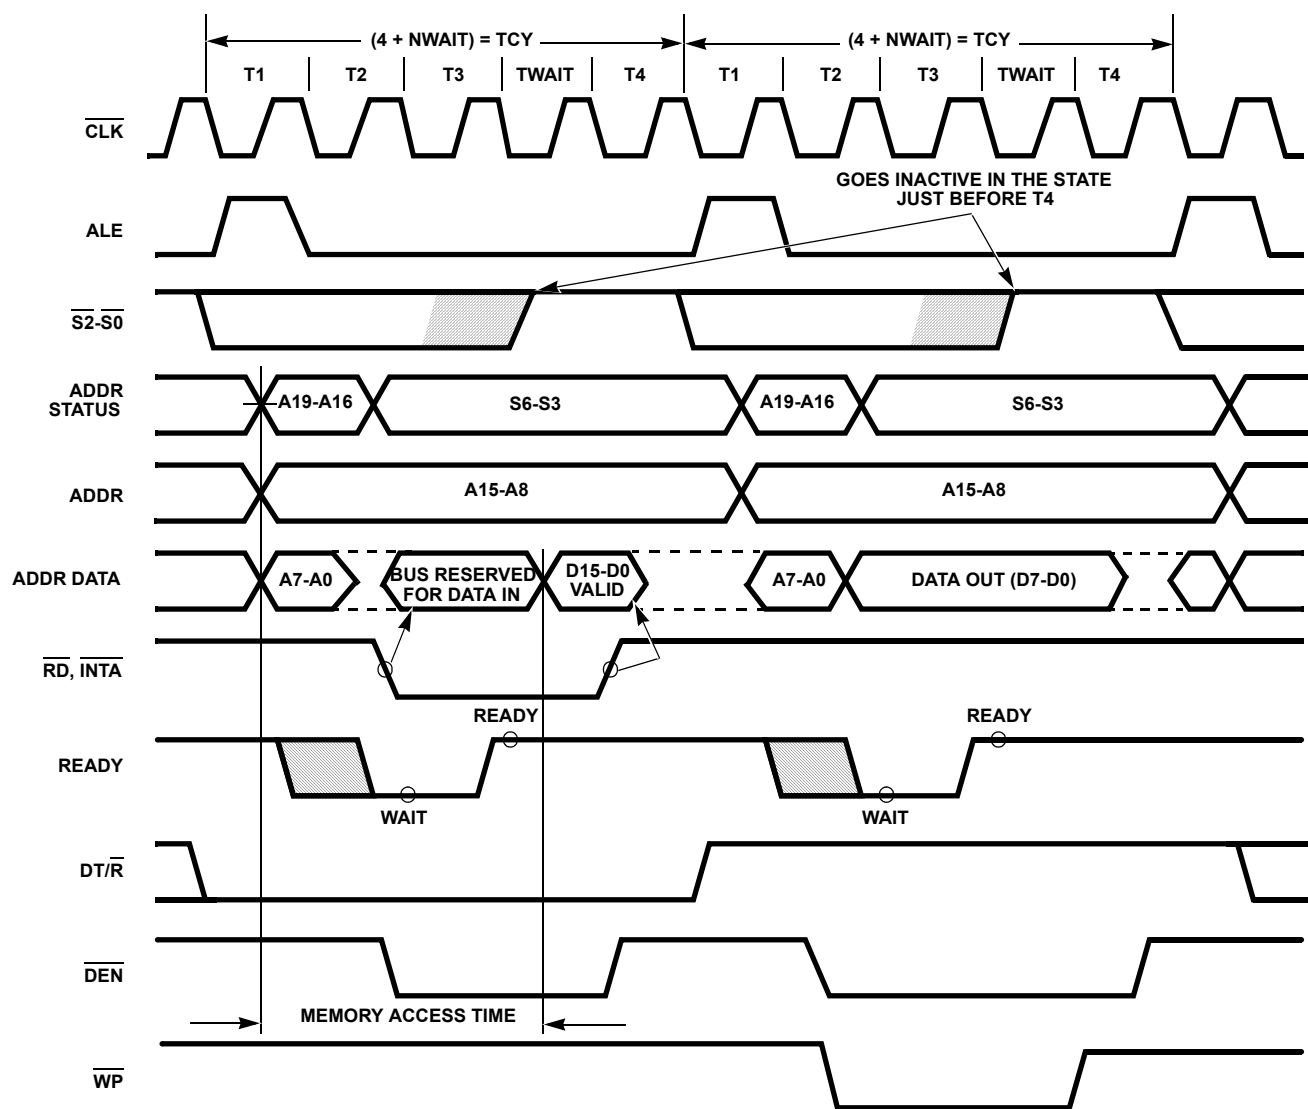

FIGURE 5. BASIC SYSTEM TIMING
Each processor bus cycle consists of at least four CLK cycles. These are referred to as T1, T2, T3, and T4, as shown in Figure 5 on page 12. The address is emitted from the processor during T1 and data transfer occurs on the bus during T3 and T4. T2 is used primarily for changing the direction of the bus during read operations. In the event that a "Not Ready" indication is given by the addressed device, "wait" states (TW) are inserted between T3 and T4. Each inserted "wait" state is of the same duration as a
The read cycle begins in T1 with the assertion of the address latch enable (ALE) signal (see Figure 5 on page 12). The trailing (low-going) edge of this signal is used to latch the address information, which is valid on the address data bus (AD0-AD7) at this time, into the 82C82/82C83 latch. Address lines A8 through A15 do not need to be latched because they remain valid throughout the bus cycle. From T1 to T4 the $\overline{IO}/\overline{M}$ signal indicates a memory or I/O operation. At T2 the address is removed from the address data bus and the bus is held at the last valid logic state by internal bus-hold devices. The read control signal is also asserted at T2. The read (\overline{RD}) signal causes the addressed device to enable its data bus drivers to the local bus. Some time later, valid data will be available on the bus and the addressed device will drive the READY line HIGH. When the processor returns the read signal to a HIGH level, the addressed device will again three-state its bus drivers. If a transceiver (82C86/82C87) is required to buffer the local bus, signals $\overline{DT}/\overline{R}$ and \overline{DEN} are provided by the 80C88.